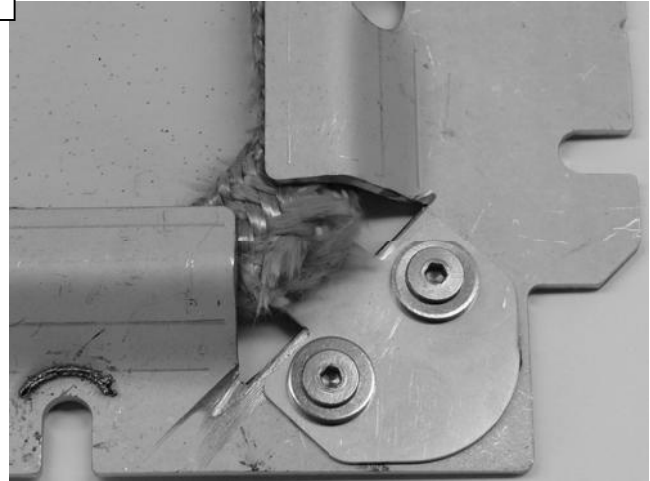

Figure 15: Glass-frame clips
5. Using a (2mm) Allen wrench, remove the 8 screws from the 4 glass clips on the corners of the frame. This will free the glass from the frame. (See Figure 15)